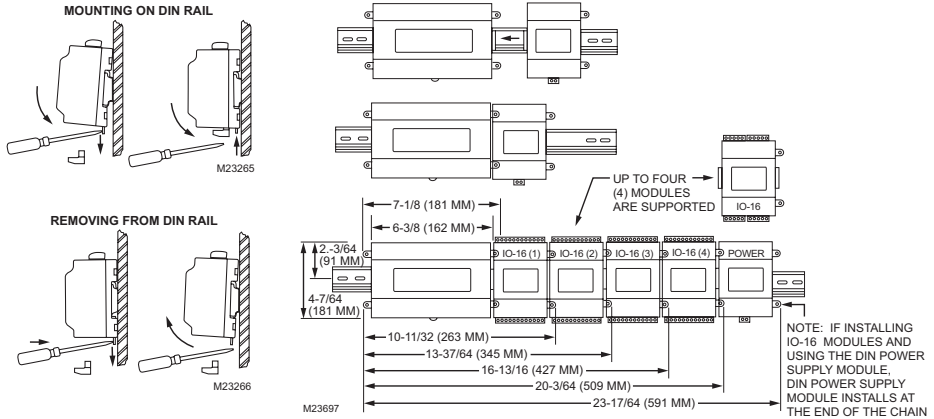

Fig. 2. Controller Accessory Mounting details.
NOTE: Length of DIN rail is determined by the number of optional DIN-mounted options. Refer to Fig. 2 for more details.
Step 2	Position the controller in the rail, tilting to hook DIN rail tabs over one edge of the DIN rail (Fig. 2).
Using the NPB-PWR-H module allows the controller to be powered (and if installed, IO-16-H modules) from a **dedicated** Class 2, 24 Vac transformer, or from a 24 Vdc power supply. If installing IO-16-H modules, the NPB-PWR-H installs as the *last* (end) module in the chain (Refer to Fig. 2).
The NPB-PWR-UN-H module lets you power the controller (and if installed, IO-16-H modules) from AC line power, with a universal input range from 90-263 Vac. If installing IO-16-H modules, the NPB-PWR-UN-H installs as the last (end) module in the chain (Refer to Fig. 2).